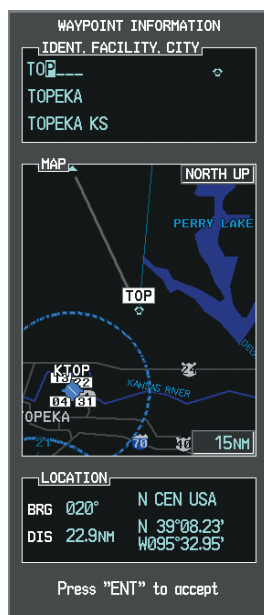

Figure 5-108 Entering V4 Entry Point
- c) Turn the small **FMS** Knob to display the Waypoint Information Window. Enter the desired entry point for V4, Topeka VOR (TOP), as shown in Figure 5-108.